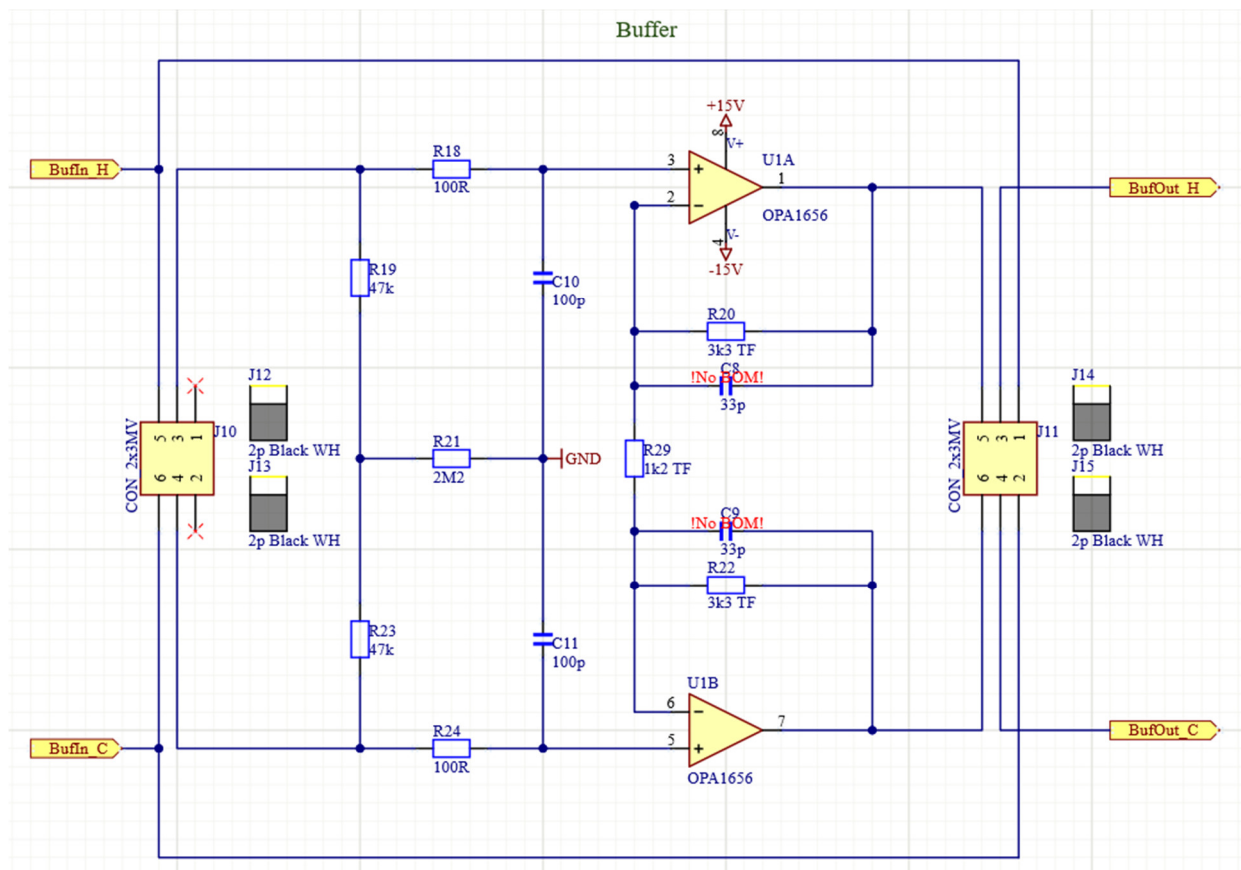

Figure 4. Buffer schematic
**Buffered situation:** the four jumpers must be moved to the right position. The buffer is now in line with the input and the output of the evaluation board. The buffer circuit is shown in figure 4.